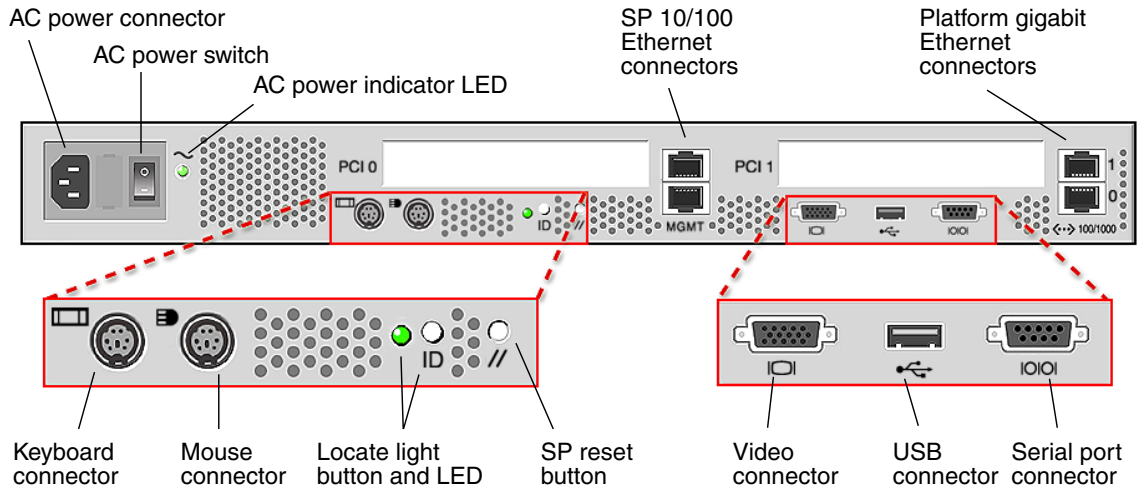

FIGURE 1-8 Back Panel of the Sun Fire V20z Server
4. Connect your peripherals. Refer to FIGURE 1-8 of this guide for an illustration of the server’s back panel connector ports.
Connect cables to the rear of the server as follows. See FIGURE 1-8 or FIGURE 1-9 for the locations of the connector ports on your server.
It is important to note the labelling of the Ethernet ports on the back panel of the Sun Fire V20z server. As shown on the far right side of the server illustrated in FIGURE 1-8, interfaces `eth1` and `eth0` are labelled as “1” on the upper port and “0” on the bottom port, respectively.
The PCI slots are labelled on the server back panel as PCI 0 (next to the power supply) and PCI 1 (between the SP and platform ethernet ports). See FIGURE 1-8.
2. Ensure that a grounded AC power cord is plugged into all AC power connectors on the rear of the server and into AC power outlet(s). See FIGURE 1-8 or FIGURE 1-9 for the connector location.
- a. Turn on the AC power switch on the server back panel (see FIGURE 1-8).